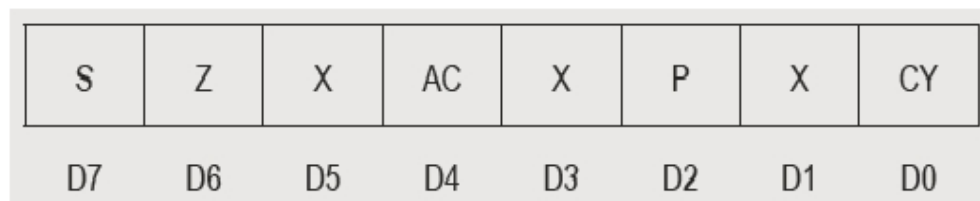

Figure1.4: Flag Register Format of 8085
Flags: The ALU includes five flip-flops, which are set or reset after an operation according to data conditions of result in the accumulator. They are called as Zero (Z), Carry (CY), Sign (S), Parity (P), and Auxiliary Carry (AC) flags. The flag register format of 8085 is shown in figure 1.4.